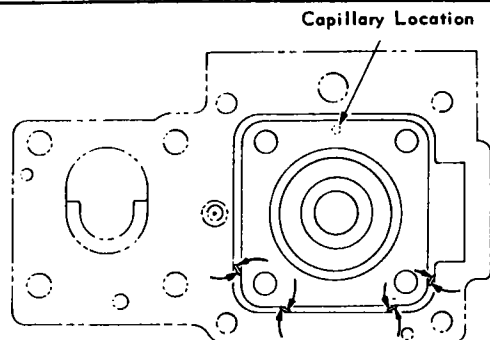

FIGURE 5 Upper Housing & Output Diaphragm
There is a blind capillary restriction that cannot be seen until the output diaphragm assembly is removed from the upper housing. This small restriction tube is easily damaged if undue prying or force is used to separate the output diaphragm assembly from the upper housing. See Figure 5 and Step 10 for removal instructions.
10. Insert a screwdriver between the upper housing and the output diaphragm assembly at the locations shown by the arrows in Figure 5. Twist the screwdriver in the direction indicated by the arrows. Twist only enough to just move the output diaphragm assembly. Do not pry!